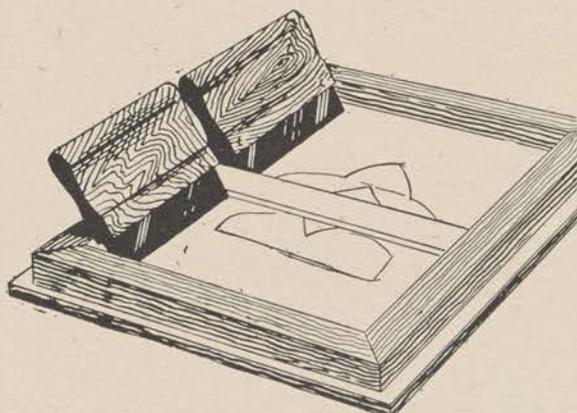

Figure 191.
e. To print in two or more colors the same procedure is followed, but a separate stencil and printing must be done for each hue. Start with a detailed drawing of your design, place it against registry guides on the baseboard of the frame and trace on the silk the parts to be done in the first color. When the stencil has been made and printed, clean the screen and trace from the master drawing the areas for the second color. Proceed in this manner until the print is finished. If two colors are widely separated in the design, it is sometimes possible to print them at the same time by placing a cardboard bridge across the frame and using two squeegees with different colors in each half of the frame (fig. 191).